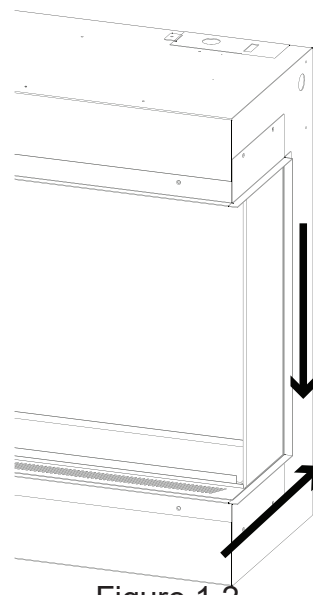

Figure 1.2
5. Push the glass back as far as it will go to make installation of the front glass easier. See Figure 1.2.